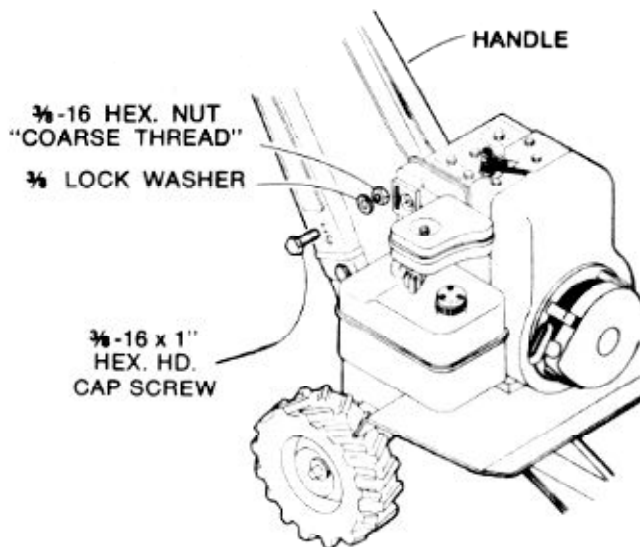

FIG. 1
2. Attach the handle to the handle brackets, Fig. 1. Position handle over brackets and secure, using four (4): $\frac{3}{8}$ -16 x 1" hex. hd. cap screws*, $\frac{3}{8}$ lock washers* and $\frac{3}{8}$ -16 hex. nuts*.